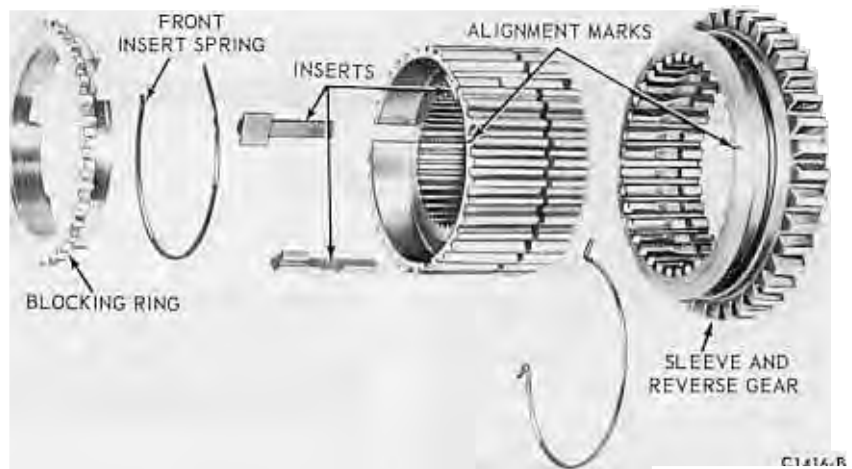

FIG. 17—First and Reverse Synchronizer—Disassembled
2. Separate the inserts and insert springs from the hubs. Do not mix the parts from the second and third speed synchronizer with the first and reverse synchronizer (Figs. 17 and 19).
Ball bearing assemblies support the input gear and the center of the output shaft (Figs. 8 and 9). Roller bearings in the input gear bore support the front of the output shaft. The countershaft gear (cluster) also runs on two rows of roller bearings. A bronze bushing is used in the reverse idler gear (Fig. 17). The rear of the output shaft is supported by the driveshaft front yoke which in turn runs on a steel-backed bushing that is pressed into the extension housing.